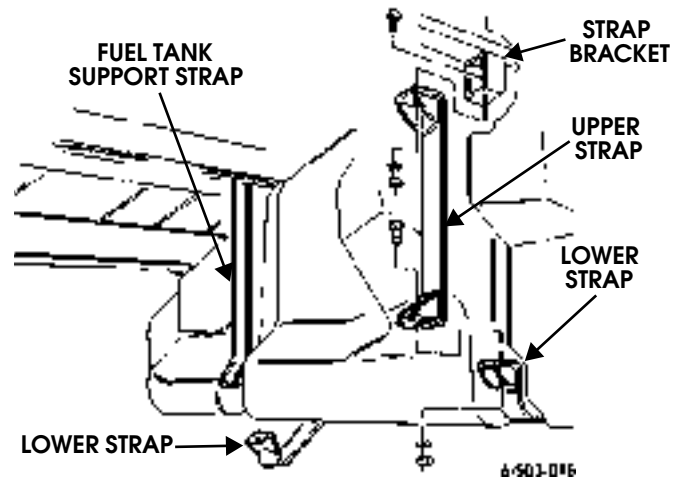

Figure 3-33: Fuel Tank Mounting Strap Attachment
12. Remove bolts and nuts attaching front and rear upper straps to lower straps (Figure 3-33).